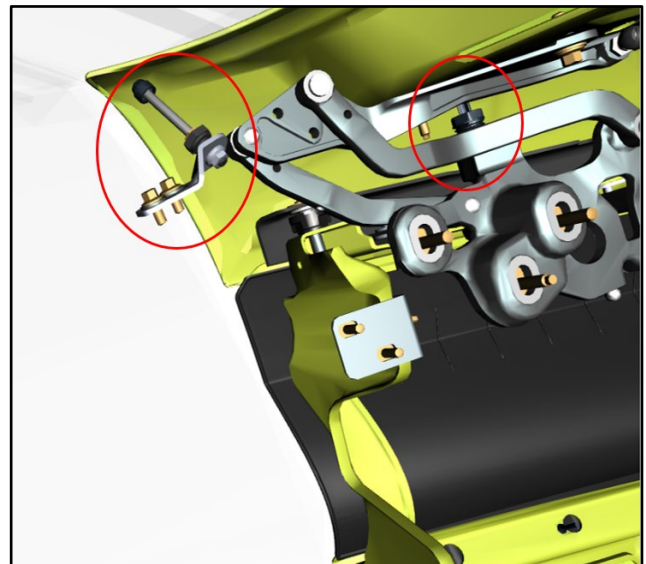

Figure 2
2. Open the bonnet and adjust the height (on both sides) with the bonnet stops and the bolts (refer to Figure 2).